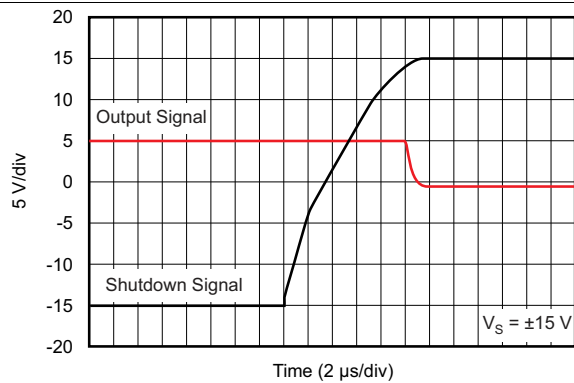

Figure 39. Turnoff Transient
(1) When disabled, the output assumes a high-impedance state.
(2) See Typical Characteristics curves (Figure 39 through Figure 41).
The shutdown (enable) function of the OPA211 is referenced to the positive supply voltage of the operational amplifier. A valid high disables the operational amplifier. A valid high is defined as $(V_+) - 0.35$ V of the positive supply applied to the shutdown pin. A valid low is defined as $(V_+) - 3$ V below the positive supply pin. For example, with V_{CC} at ± 15 V, the device is enabled at or below 12 V. The device is disabled at or above 14.65 V. If dual or split power supplies are used, make sure the valid high or valid low input signals are properly referred to the positive supply voltage. This pin must be connected to a valid high or low voltage or driven, and not left open-circuit. The enable and disable times are provided in the Typical Characteristics section (see Figure 39 through Figure 41). When disabled, the output assumes a high-impedance state.